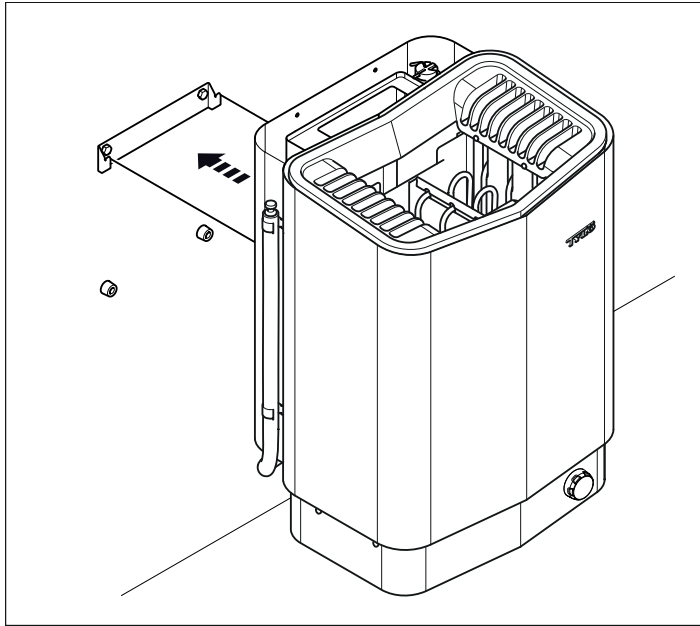

Figure 12: Hang the heater up.
9. Hang the heater on the bracket (see Figure 12).